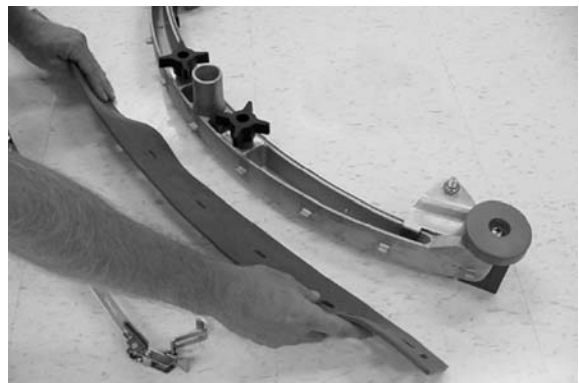

FIG. 45
3. Rotate the rear blade to a new wiping edge and reinstall the band (Figure 45).